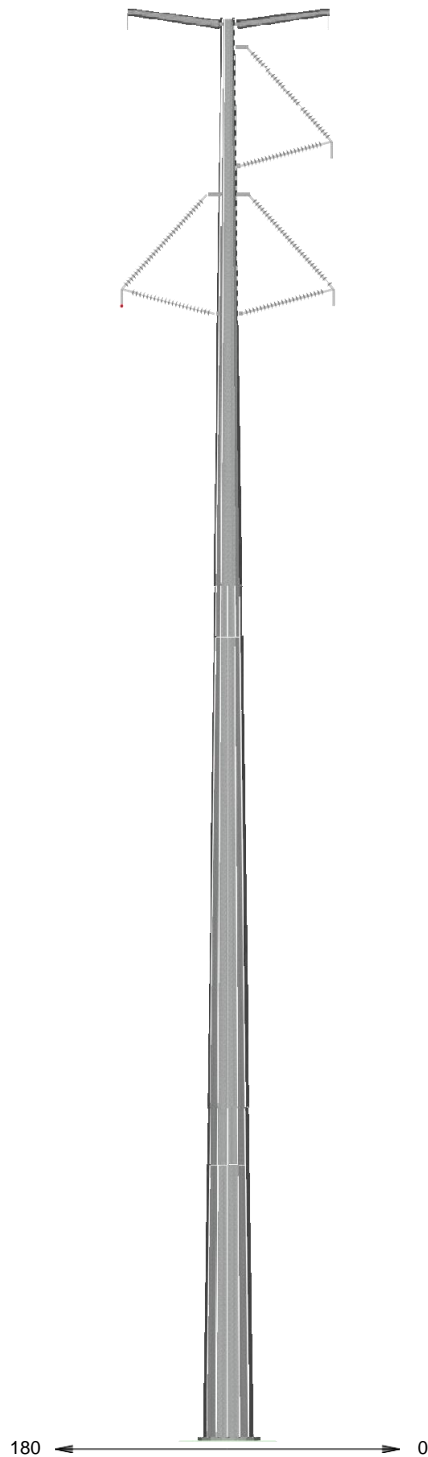

FIGURE G-4
- Figure G-4: Double-Circuit 230 kV Single-Pole, Tangent, Vertical Configuration with Horizontal Post Insulator